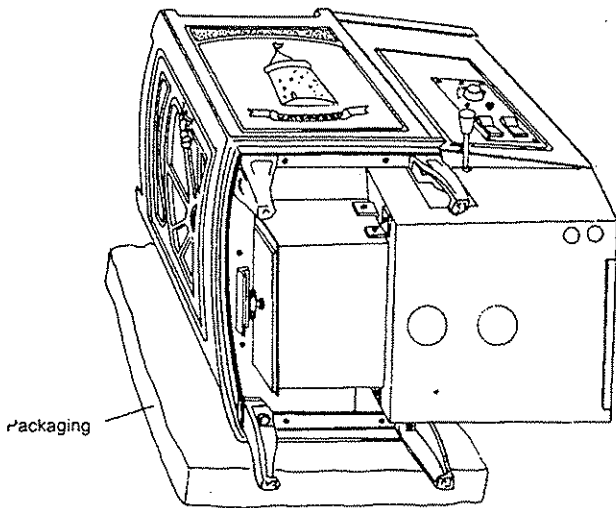

Fig. 6
- D Remove the wooden pallet by taking out the retaining screws from the base of the stove. Stand the stove upright taking care not to strain the leg bolts (fig. 6).